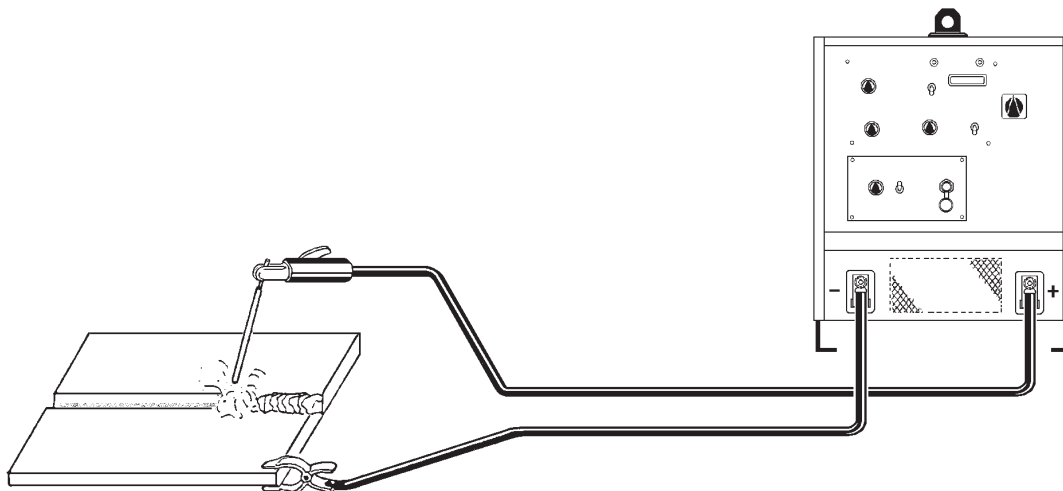

Figure 5-1
(See Figure 5-1)
1. Connect the welding leads to the power source with the correct polarity. Figure 5-1 shows typical connections for DCEP welding. Make sure connections are properly tightened.